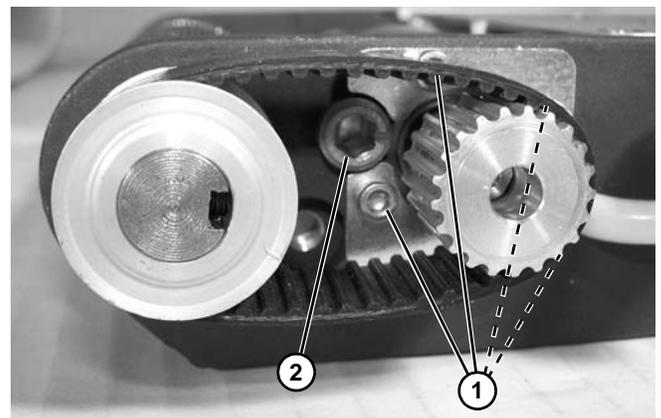

Figure 130
4. Loosen four clamp plate screws (**Figure 130, item 1**).
5. Loosen timing belt tension cam (**Figure 130, item 2**).